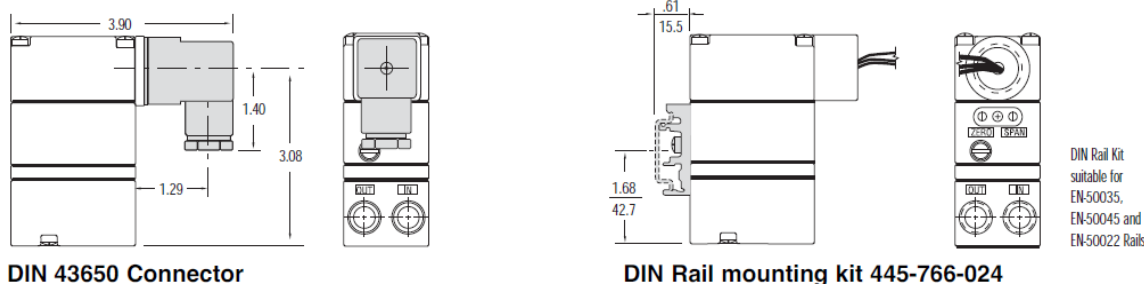

Figure 3 – DIN Rail Mount
- 2.3.1 Each Type 900 comes with a mounting kit that enables pipe, panel, or wall mounting of the unit. An optional mounting kit is available for DIN-rail mountings (see Figure 3). The Type 900 may be mounted at any angle.